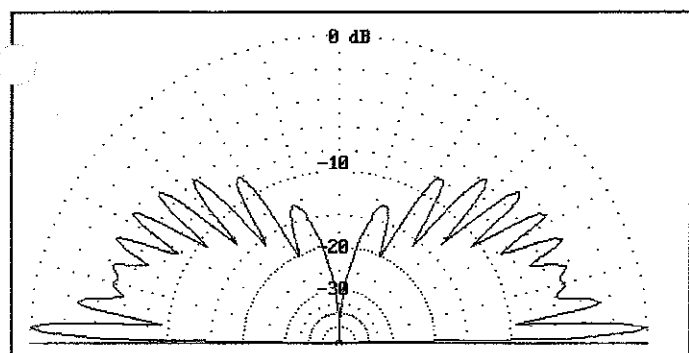

Fig. 3— Elevation plot for a 1/2-wave dipole mounted 30 ft. above ground.
The resulting far-field elevation plots for this first scenario are shown in figs. 2 and 3. Two elevation plots are depicted for the J-pole in fig. 2, and the reference $1/2$ -wave dipole is shown in fig. 3. Fig. 2(A) was produced with the unconnected portion of the stub oriented to the right side; fig. 2(B) was generated by EZNEC with the stub rotated 90° azimuth (perpendicular to the view).
The $1/2$ -wave reference dipole's plot (fig. 3) is similar to that in fig. 2(B). However, the dipole produces a sharper dip in radiation directly overhead (180°).